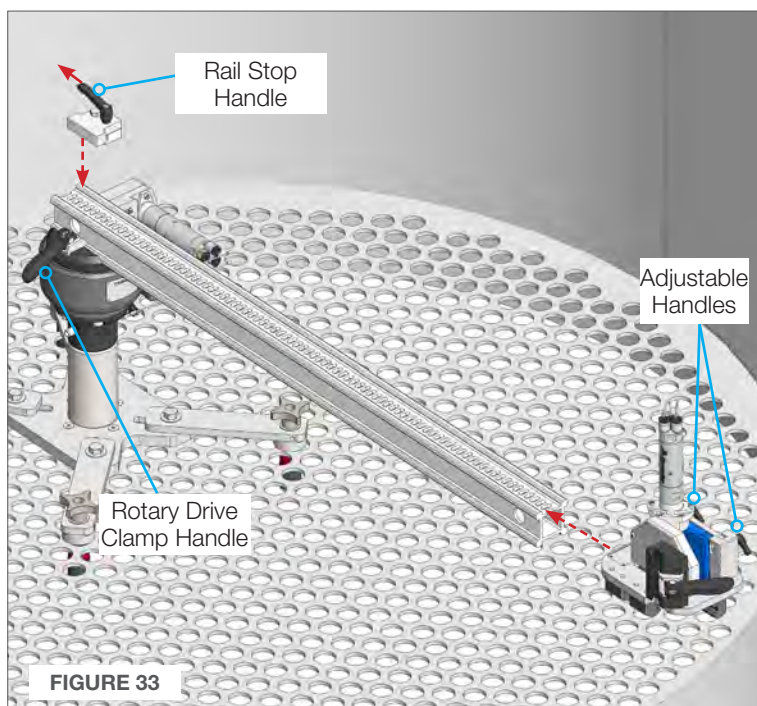

FIGURE 33
14. Orient the Adjustable Handles of the Linear Drive to the opposite side of the Rotary Drive Clamp Handle. **(Figure 33)**
15. Slide the Linear Drive onto the rail and rotate both Adjustable Handles down to engage the gear. Sliding it back and forth on the rail can help drop it into the slots. **(Figure 33)**
16. Slide a Rail Stop onto the opposite end of the rail and orient the Handle so it faces away from the Linear Drive. **(Figure 33)**